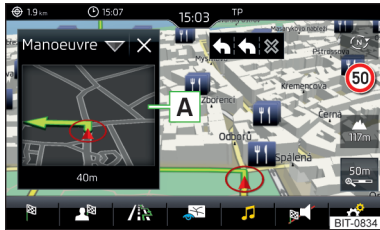

Fig. 214
The unit offers the possibility to show in the split screen display the following **Position** » Fig. 214 on page 182 information about the current geographical position of the vehicle and the satellite signal.
- ▶ To **select content** of the additional window **A** » Fig. 214 tap the function surface Tap and select one of the following menus, depending on the context.